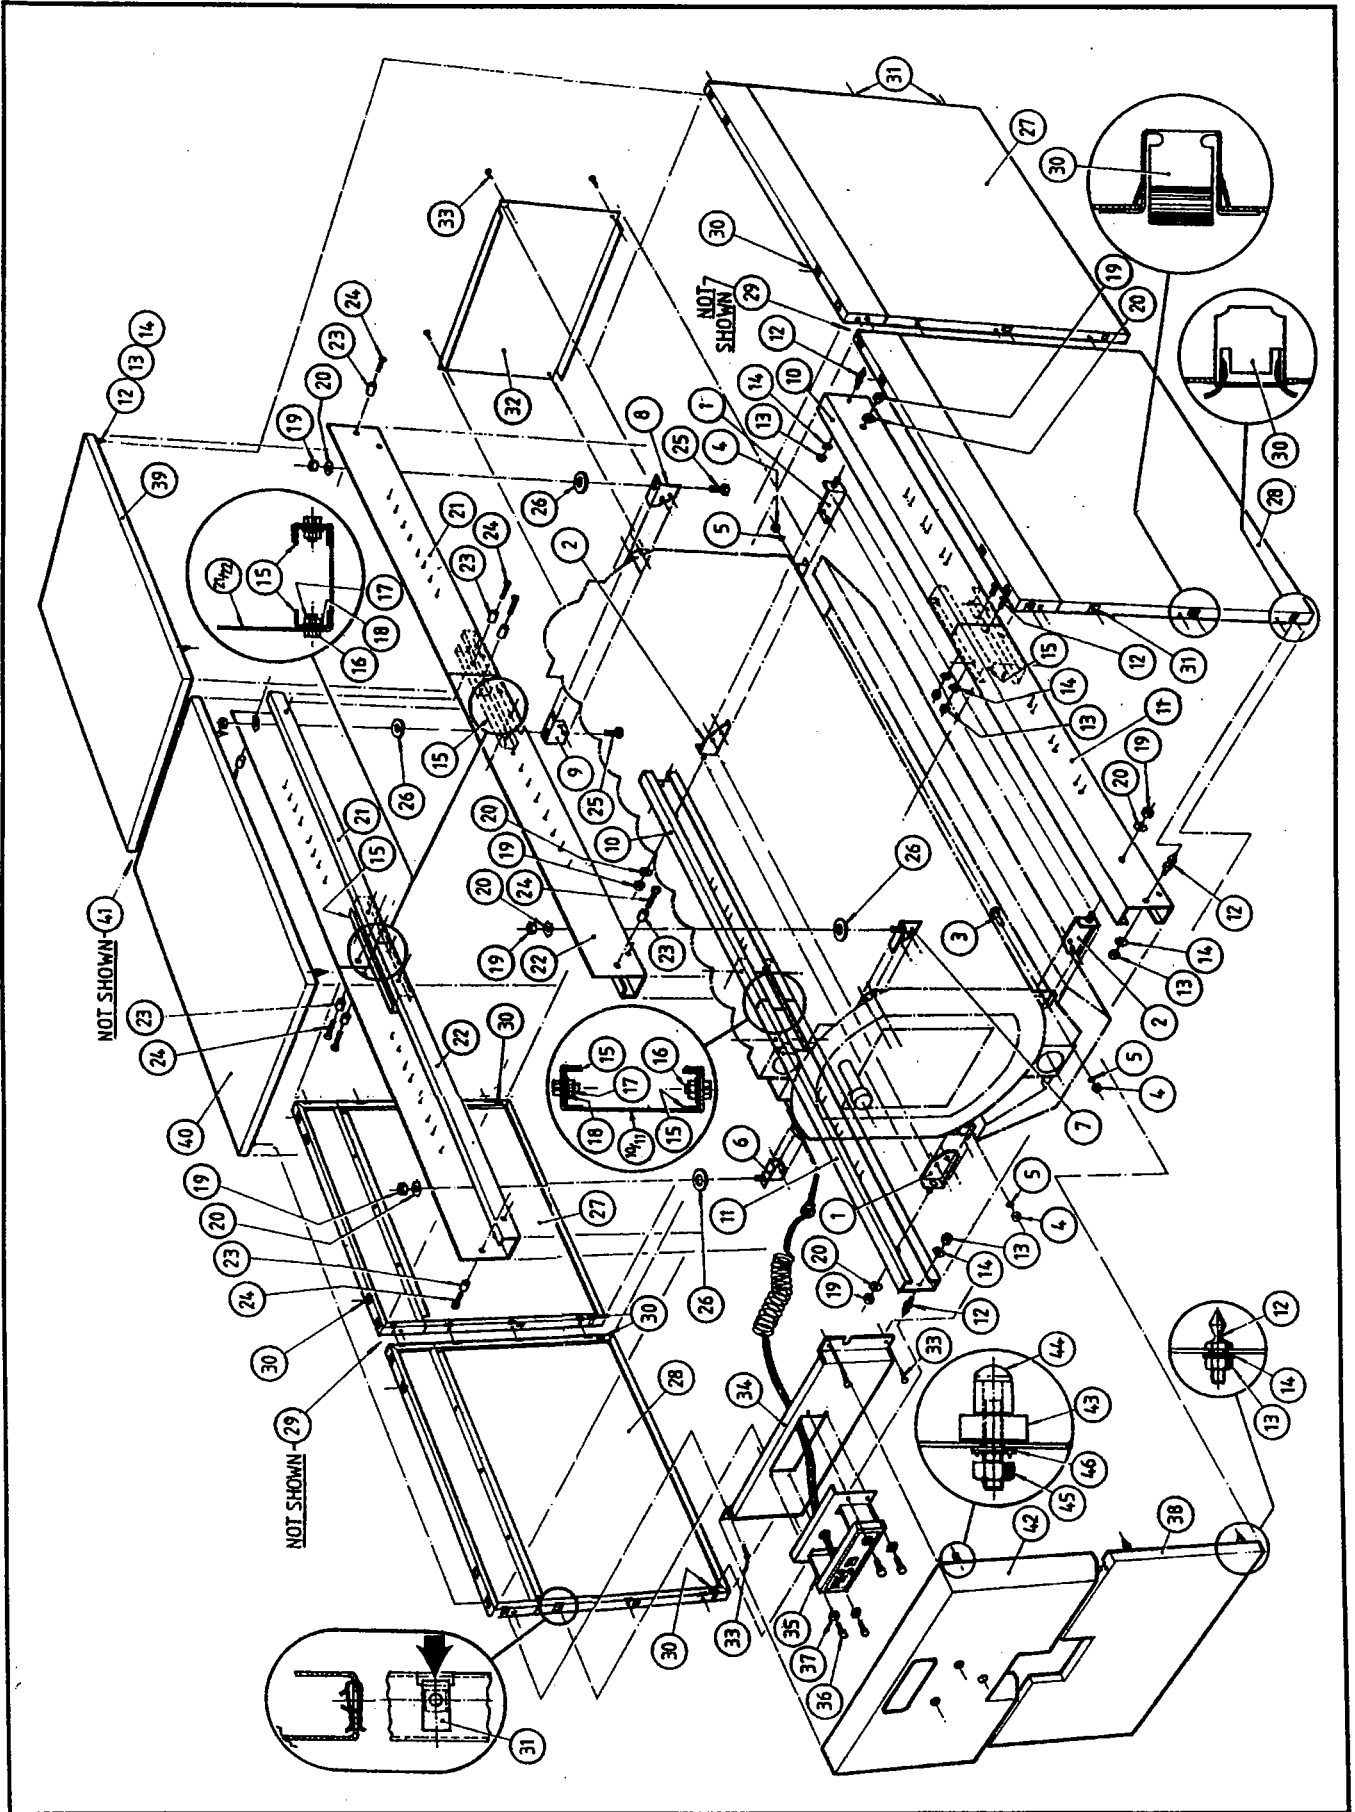

Figure 10.9 – Boiler Casing Assembly
10.5 Casing Assembly (refer to Figs 10.9 & 10.10)
- a. Fit the 4 bottom brackets (items 1 & 2, marked A & B respectively) utilising the existing lacing bolts and nuts, and M12x30 hex. screws, nuts and spring washers (items 3,4 & 5) as required.
- b. Fit the 2 front, top brackets (items 6 & 7, marked C & D respectively) utilising the existing lacing bolts and nuts, and M12x30 hex. screws, nuts and spring washers (items 3,4 & 5) as required.
- c. Fit the 2 rear, top brackets (items 8 & 9, marked E & F respectively) utilising the existing lacing bolts and nuts, and M12x30 hex. screws, nuts and spring washers (items 3,4 & 5) as required.